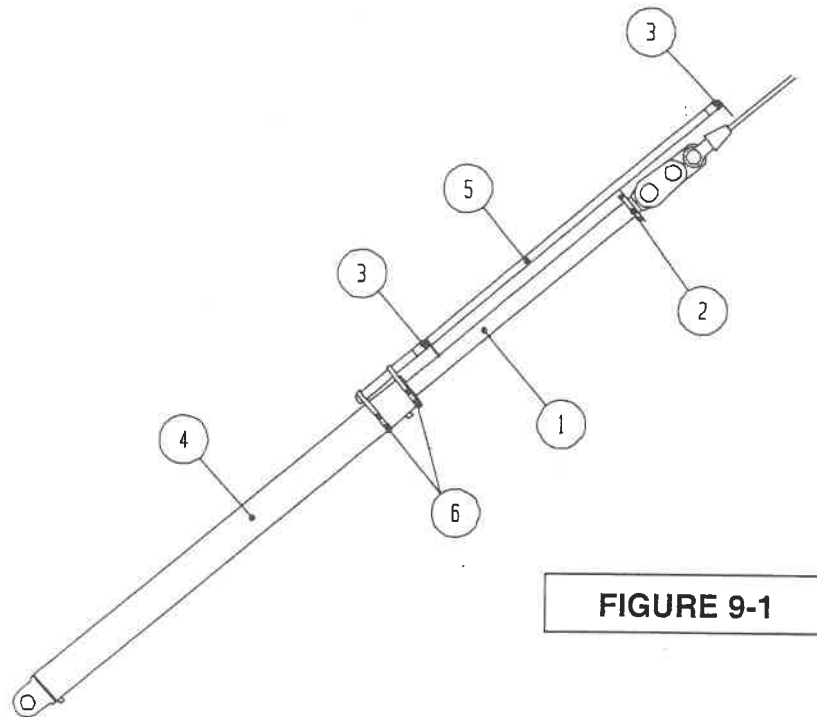

FIGURE 9-1
- Ram mounted: Figure 9-1: These switches are attached directly to the track rope ram.
OPERATION (see figure 9-1)